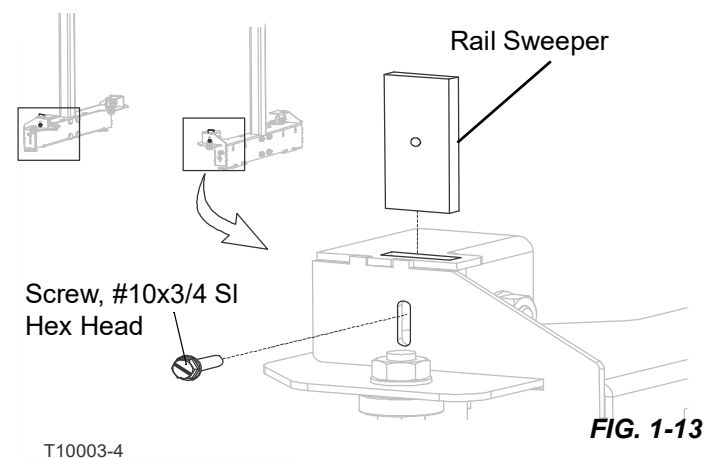

FIG. 1-13
1. Install the sawdust rail sweepers on the **front sides** of **both** carriages. Make sure that the sweepers contact the rails. See FIG. 1-13.